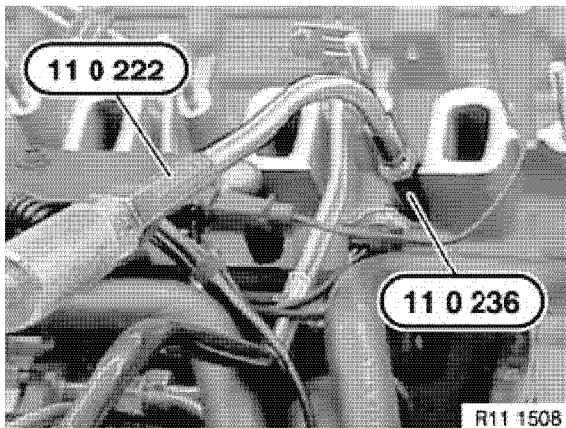

Figure 5-1
4. Assemble special tools OEM No. 11 0 222 and 11 0 236 and install in glow plug port (**Figure 5-1**).